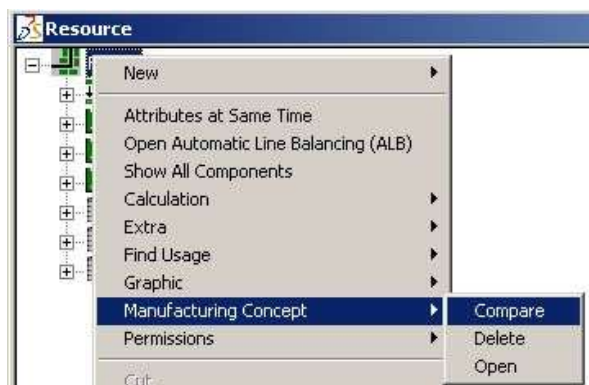

Figure 80: Comparing Manufacturing Concepts –Resource View
- 3) Press the right mouse button and click **Manufacturing Concept < Compare**. Please refer to the Figure 80.